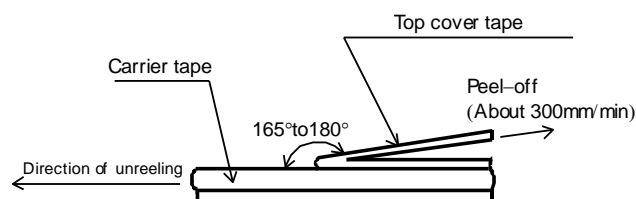
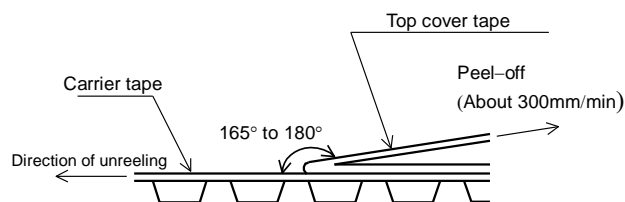

Figure-5
Figure-6
- 5). The peel strength of the top cover tape shall be within 0.1N to 0.5N on the test method as shown in the following TWLC32: Figure-5, TWLC50,63: Figure-6.